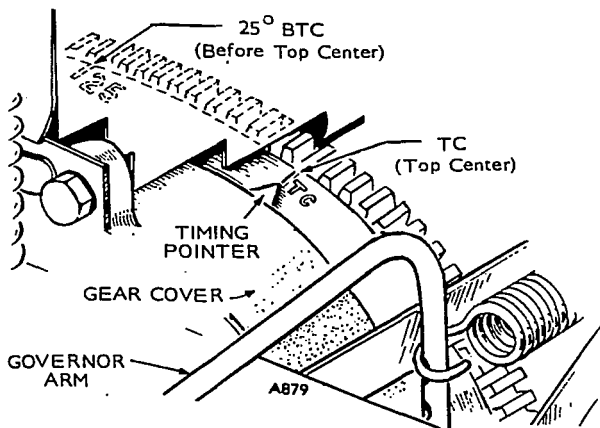

FIGURE 37. JB-JC TIMING MARK
2. Rotate flywheel clockwise until TC mark on flywheel approaches timing indicator (Figure 37). Then slowly rotate flywheel clockwise until light goes out, indicating that points have opened. This is the ignition point. If timing is correct, ignition occurs at 5° ATC.
3. If ignition timing isn't correct, align 5° ATC mark and timing pointer, then loosen breaker plate capscrews and rotate plate until light goes out. Clockwise rotation advances timing, counterclockwise rotation retards it (Figure 37).